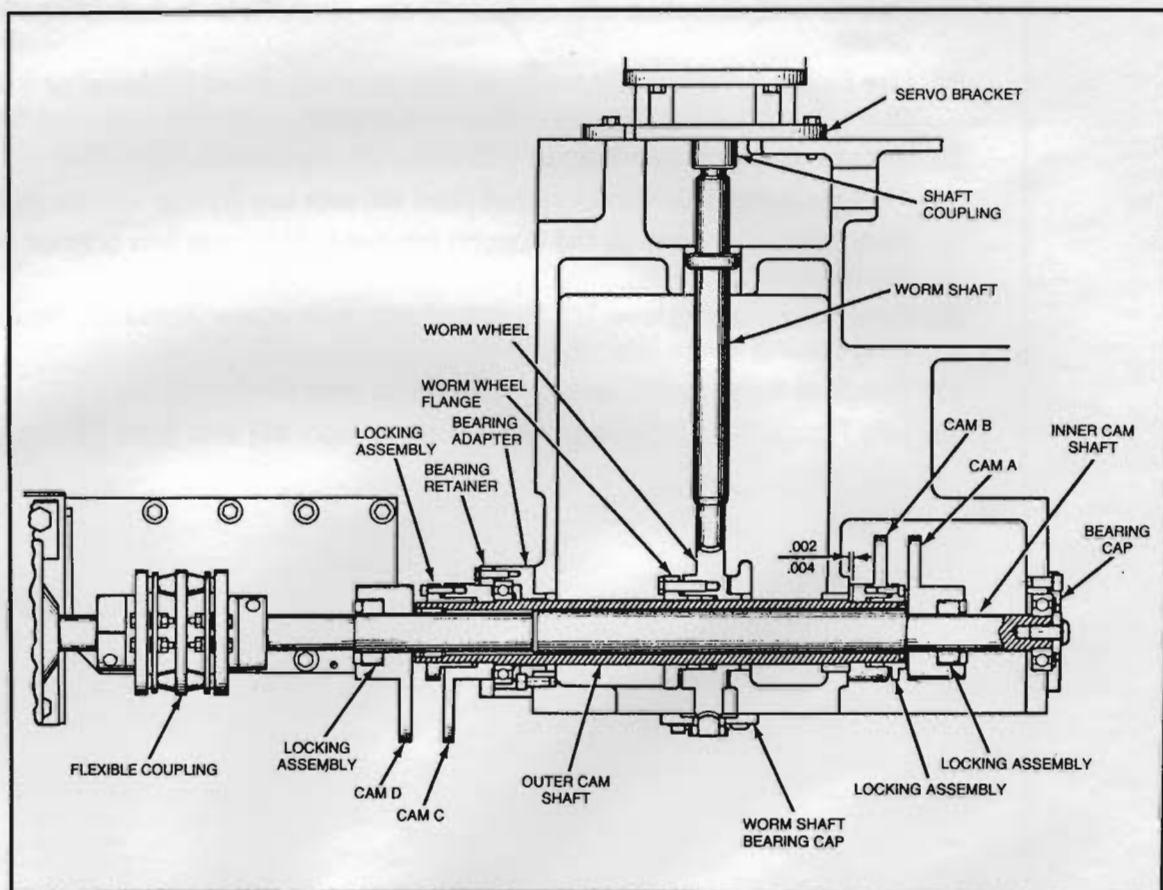
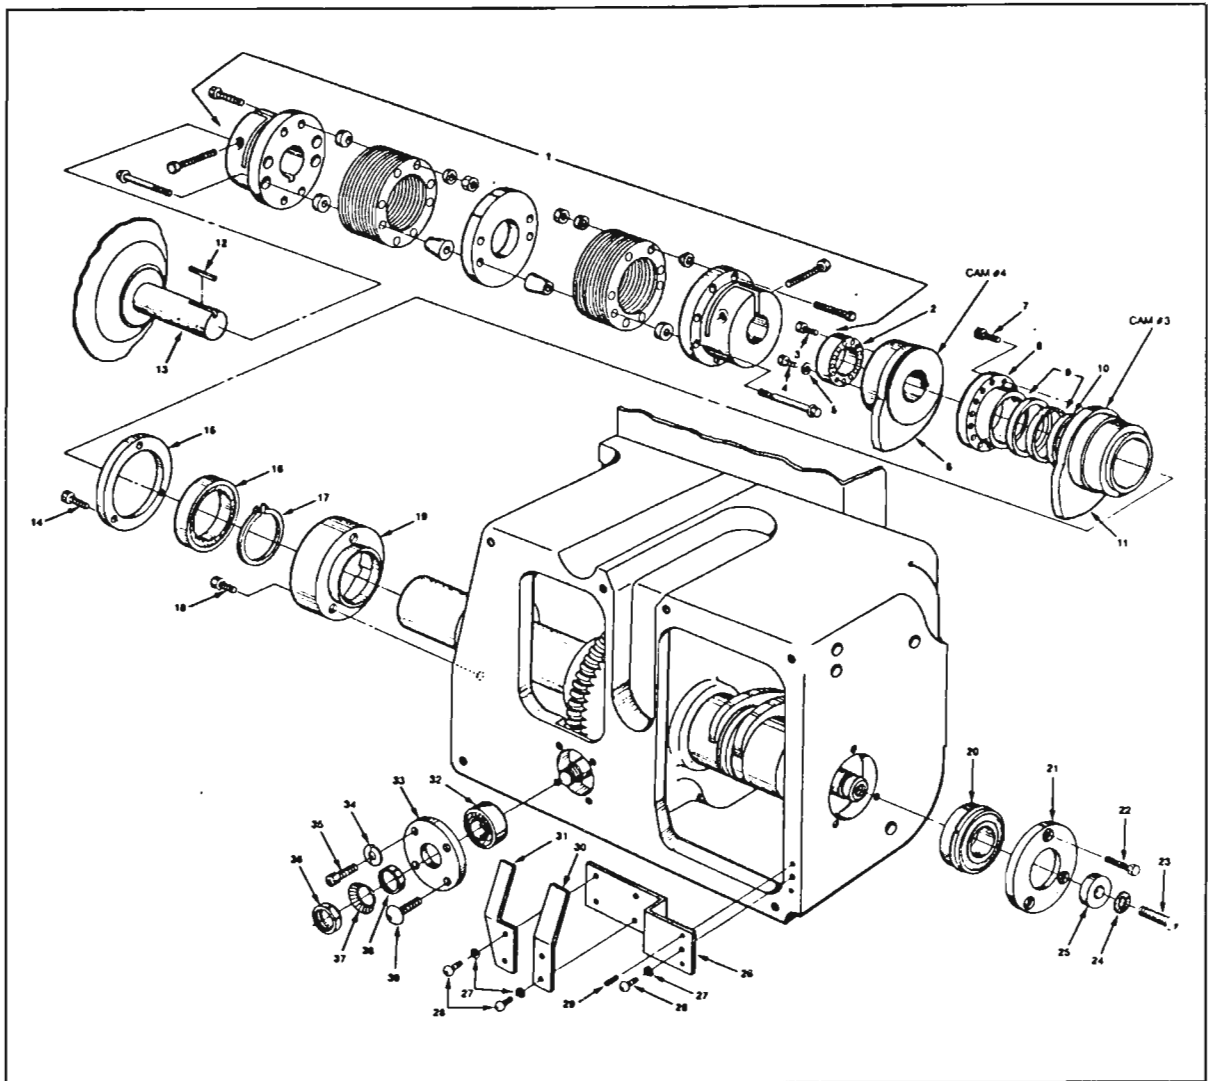
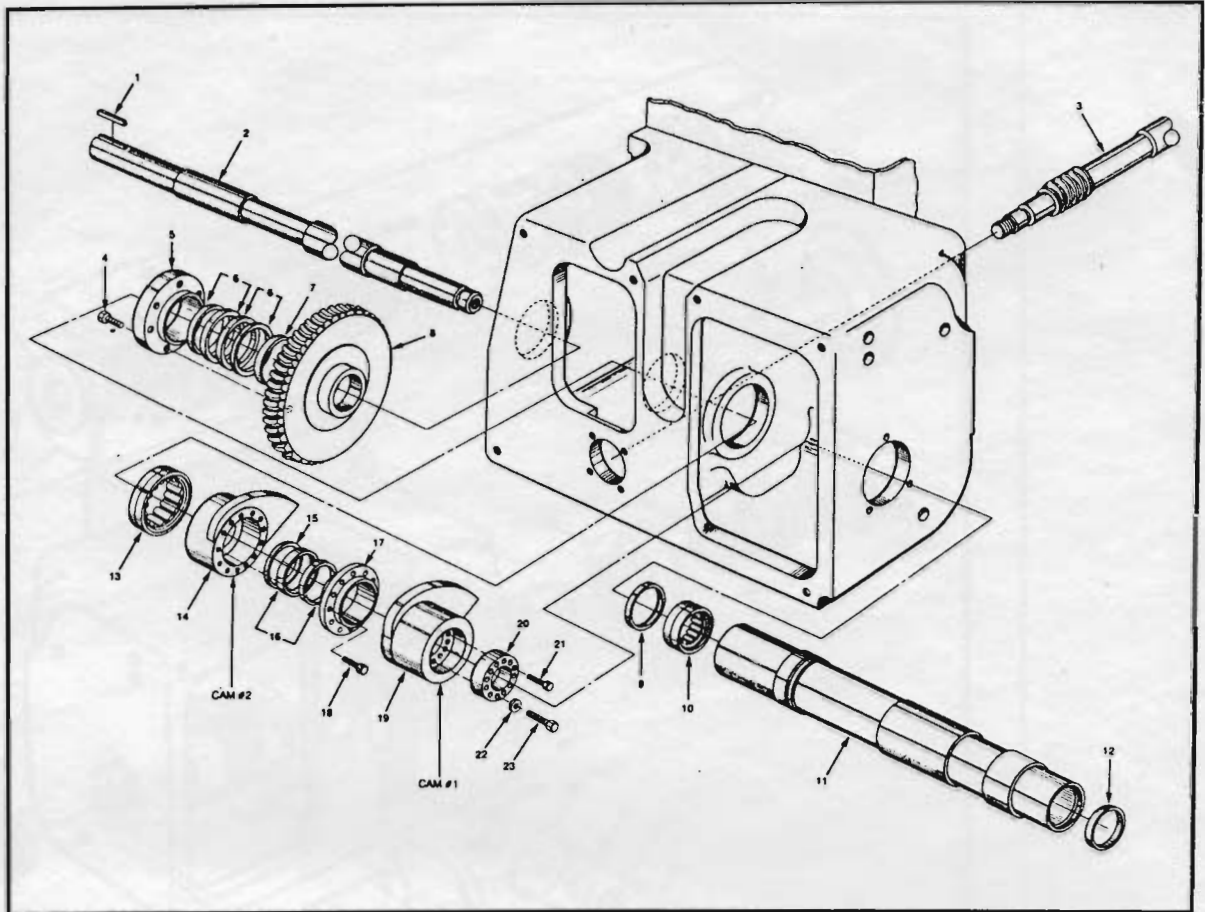

Figure 3-9
Figure 3-10
Figure 3-11
4. On the CNC machine there are two separate drives that actuate the cross slide cams (Figure 3-9). The servo motor on the left drives the inner shaft and cams "A" and "D". The servo motor in the rear drives cams "B" and "C" through a worm shaft and worm wheel.
5. (Figure 3-10) Remove the pointer bracket (#26).
7. (Figure 3-11) Loosen locking assembly (#20) and (Figure 3-10) locking assembly (#2) to break cam loose from shaft. Tap the hub of the cam with a hammer and tap cam "A" (Figure 3-9) to the right and cam "D" to the left.
8. (Figure 3-10) Loosen cam shaft coupling screws (#1).
9. (Figure 3-11) Push the inner cam shaft (#2) as far as possible to the left. Cam "A" will slide off the inner shaft. Push the inner shaft to the right and remove from the machine. Cam "D" will slide off as shaft is removed.
10. Mark the coupling and shaft for reassembly and remove the coupling (#1) from the machine as a unit (Figure 3-10).
12. (Figure 3-11) Loosen the clamp assembly (#17) and remove cam #2 (#14) from the shaft. This locking assembly is very powerful and may require more than a few taps of the hammer.
14. (Figure 3-10) Remove the bearing retainer (#15).
15. (Figure 3-11) Tap the worm wheel (#5) to the right with a rubber faced mallet. This will release the locking arrangement.
20. (Figure 3-10) Replace the bearing retainer (#15) and fasten in position.
23. (Figure 3-11) Gradually tighten the screws (#4) and with a wrench hold the worm shaft nut (Figure 3-10) (#36) to keep from turning. Tighten all six screws to 30 ft. lbs. torque. The tightening process should bring the indicator back to "O". Slowly turn the worm shaft to make sure there is a slight backlash for all 360° of worm wheel rotation.
26. Assemble cam "B" on the outer shaft. Place one .0015" thick feeler on the top and the other on the bottom of the shaft between the hub of the cam and the bed. Rotate the cam until the rise is against the roll. Gradually tighten the clamp screws (#18) (Figure 3-11), alternating screws, until a final tightening of 8 ft. lbs. torque is obtained.
27. (Figure 3-10) Reassemble coupling (#1) on the shaft of the speed reducer.
28. Slide the inner shaft to the right so that cam #4 (#6) can be mounted. Then slide the shaft all the way to the left so that cam #1 (#19) (Figure 3-11) can be assembled.
29. Slide the inner shaft back to the right and assemble the bearing (#20) (Figure 3-10), the retainer (#21), the retainer screws (#22), the spacer (#25), the washer (#24) and the screw (#23). Lock securely.
30. Centralize cam #1 (#19, Figure 3-11) with the cam roll. Gradually tighten the clamp screws (#23) until 10 ft. lbs. torque is obtained.
31. Slide the coupling (#1, Figure 3-10) all the way to the right so that it clears the speed reducer shaft. The inner shaft will not turn freely.
1. (Figure 3-10) remove the retainer (#33). Be careful that the worm lubrication trough (not shown) does not drop when the two screws (#35) are removed.
7. With the worm shaft in a vise, disassemble locknut (#36), lockwasher (#37), spacer (#38), and bearing (#32) (Figure 3-10).